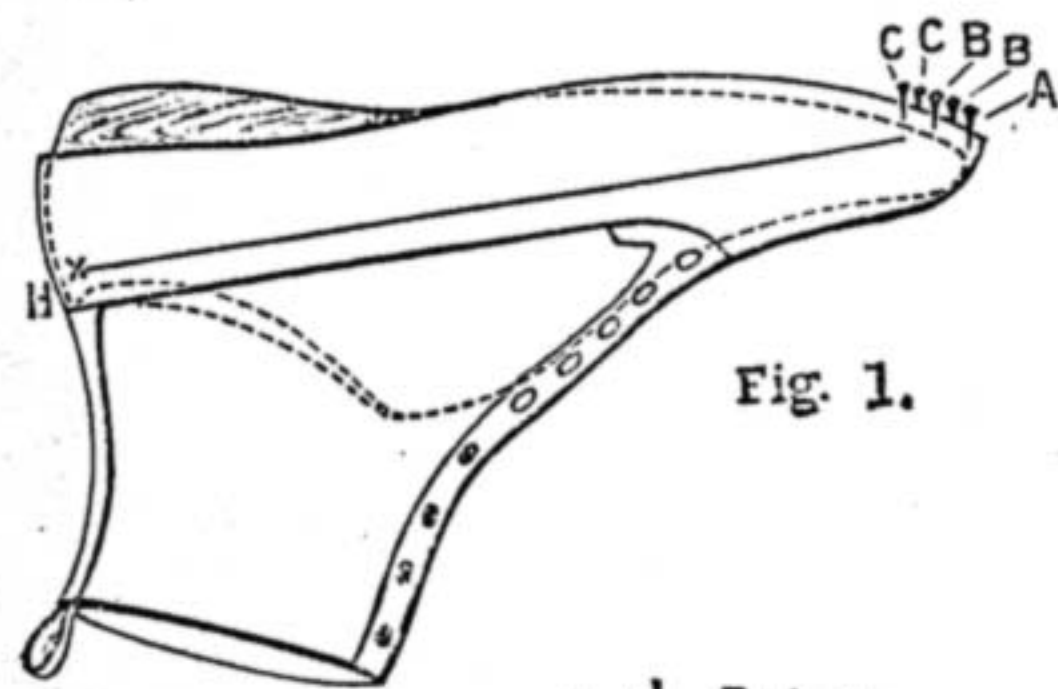
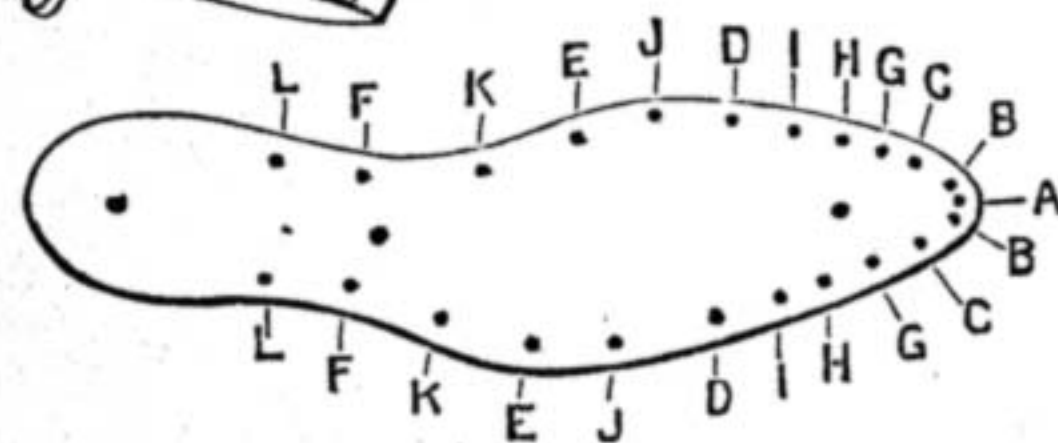

Fig. 1.
Fig. 2.
**Canadian Toboggan.**—L. B. (Kirkcaldy) writes:—"The following is a modification of instructions for making a 'Bob-sleigh,' which I saw in a magazine a good many years ago, and which, as it may be useful to the readers of WORK, I know from experience that if the directions are carefully followed, and a little care taken, the result will be a sleigh which will not disappoint you. The advantage of this over the ordinary toboggan is that it can be very easily steered in any direction, and that it is flexible, and therefore well suited for use over frozen roads or rough ground. The accompanying sketches are to a large extent self-explanatory; but should anyone have difficulty in making practical use of them, I shall be glad to answer any questions in a future number. The runners (Fig. 1), four in number, are made from a clean ash board 6 in. wide and  $\frac{3}{4}$  in. thick. Each runner must be cut to the shape shown in Fig. 1, and planed smooth on all sides. Now mark off on the upper edge of each the distances, 2 $\frac{1}{2}$  in. by 2 $\frac{1}{2}$  in. by 8 in. by 2 $\frac{1}{2}$  in., measuring from the rear top corner, as shown in Fig. 1. Now set your bevel, and draw the lines for the mortices a, b (Figs. 1 and 2), and note that Fig. 2 shows a left-hand runner; the two right-hand ones will have the bevel the opposite way. Round off the front end of the runners to a nice curve, as at d, and round off the rear corners as at c (Fig. 1). Each pair of runners must now be joined by two oak or ash cross-bars dovetailed into the mortices
Now get a second block to slide parallel with the piston and along the steam port fence; on it paint our slide valve. Have to this a couple of rods attached as in sketch. The eccentric need not be in the usual form, but in the form of a crank (Fig. 2), so as we can give or take off less stroke of valve as we give or take off lap of valve. Having completed our model we can see the effect of lead, cushion, etc. A few months in an erecting shop of any good engine works will be worth a great deal more than experimenting with any such model. I have given it, however, so as any who have not that chance can master the mysteries of the slide valve if they will only persevere.—T. R. B.
**Hand Cart.**—W. N. (Wood Green).—As there is such a variety of shapes and sizes of hand carts, I send you a sketch of a plain one (Fig. 3), which I think will suit your purpose. The hind-board (Fig. 4) is not a fixture, but slides in and out of a groove made of wood or angle iron, bolted to the inside of the cart. The framework (Fig. 1) of the body is of ash, 1½ in. thick by 3 in. wide. The chests, or shafts, 6 ft. 8 in. long; the chockrells or cross-pieces, 3 ft. 5 in. long. If common arms are used, a bed 4 in. square is fixed either under springs of 5 laps 2 in. wide, each ¼ in. thick, or the bed can be fixed on blocks, as Fig. 2. These blocks are 3 in. thick, 12 in. long at the top and 8 in. at the bottom. The wheels are 3 ft. 8 in. high. The nave turned cart or coach fashion 7 in. x 8 in.; twelve spokes 2 in. wide, 1½ in. thick; felloes, 2½ in. x 2 in.; tyre, ½ in. thick. Either two or four ash standards,
**Boot Making.**—SNOBBY.—Had you mentioned the part of lasting in which you felt most deficient, I could have set you right better than I can perhaps by having to embrace the whole principles of lasting in the columns of "Shop," as I may deal least with the points you need most. I conclude that it is for machine-sewn work for which you ask the questions. This class differs much from hand-sewn, but its principles, which have to be understood to produce a well-lasting boot, are the same. In the sketch below I have used lasting tacks to give a better illustration, but in practice these would only be used for hand work, and drawn as you come to them in sewing in the welt, whereas for machine work, tangles would have to be used, and driven in to clench on the iron bottom of the last, and they must be put in as near to the centre of the insole as the upper will admit, so as not to come in contact with the point of the machine needle. Fig. 1 shows the upper on the last, hoisted at the back about an inch, the toe having been pulled over the toe of the last, and the first tack (A) put in the centre (first being very careful to get the back seam and the centre of the vamp quite straight); then each side of A should be pulled with the pincers, working reasonable and equal stuff towards the centre of the toe (as all the pipes or wrinkles have to be got out at this point), and two tacks (B and B) put in; and if the boot is nice and straight, catch hold of the side of the toe at C, and pull as much as possible in the direction from H, and put in a tack (C), and the same on the other side at C. These two tacks are called the "draft tacks," as they hold the draft in the boot (if lasted tight) until the last tack has been driven in. It is also to get this draft that the upper is raised at the back, for when all the fore part, as far as EE, Fig. 2, and the heel of the last, has to be knocked down, it necessarily forms a line of tightness from H to C, Fig. 1. This line is called the draft of the boot. When the heel has been knocked down, the waist and heel can be lasted, only it need not be pulled so hard, more especially the waist. The greatest principles of lasting are: the draft lasting tight, lasting out all the wrinkles out of toe, and pulling equal at all parts, and at one side equal to the other. It is the evenness of the
lasting that makes the boot set clear when the last is out. Fig. 2 gives the bottom of the last, and the dots thereon indicate about the position of the tacks, which are numbered alphabetically, to show that the one marked should be put in first—the two B's, then the two C's, and so on till finished. Of course, more tacks are needed than I have shown at the toe, but only to last out the wrinkles, so these are put in according to the number the stuff forms itself into.—W. G.